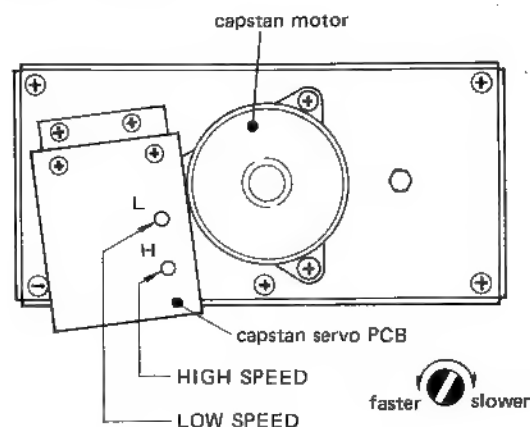

Fig. 2-25
3. Play the tape. Adjust HIGH SPEED control (see Fig. 2-25) for a reading of 3,000Hz $\pm$ 5Hz.